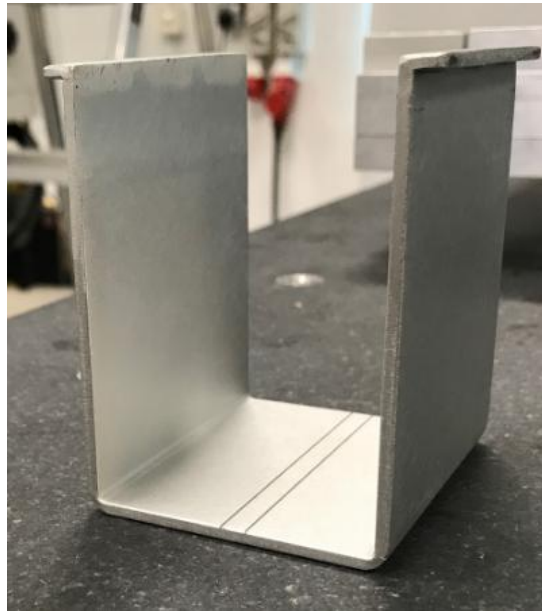

Figure 13 S2EX Panel Clear Sensor Jig
1. Prepare the latest S2EX Panel Clear Sensor Jig (4JACMM-N041-B) as shown in Figure 13